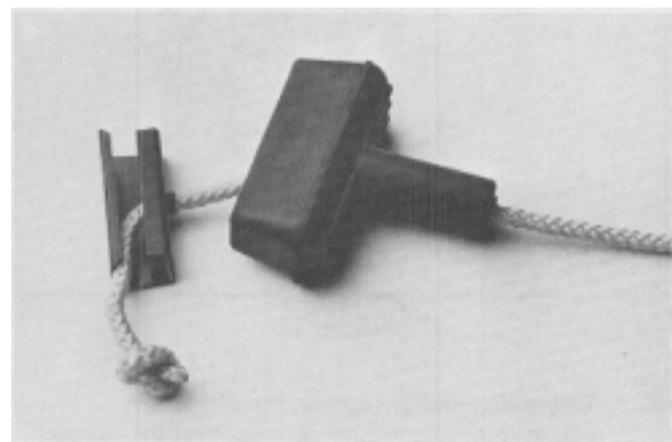

Figure 60
6. Tie a single knot in the end of the rope; then singe the end with a lighter to prevent the knotted end of the rope from fraying (see Figure 60).